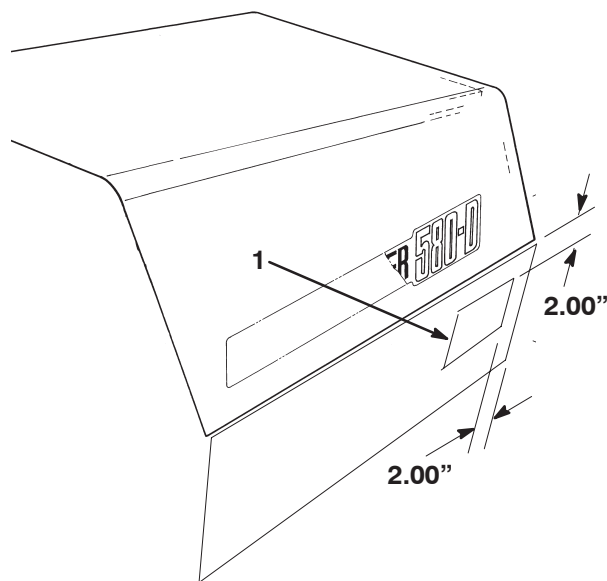

Figure 21
1. Using dimensions shown in figure 21, locate and affix a 4 wd decal to each side of machine.